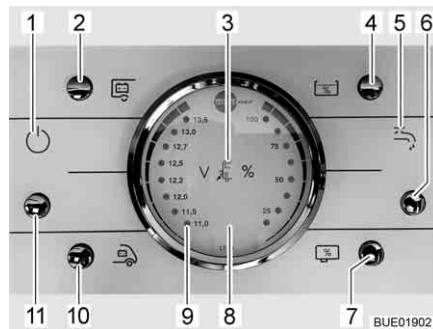

Fig. 167 Panel LT 96
The button (Fig. 167,11) switches the panel and the 12 V power supply to the living area on and off.
Switching on: ■ Press the button (Fig. 167,11): The 12 V living area power supply is switched on. The indicator lamp (Fig. 167,1) lights up.
Switching off: ■ Press the button (Fig. 167,11): The 12 V living area power supply is switched off. The indicator lamp (Fig. 167,1) goes out.
With the V/tank gauge (Fig. 167,8), note the left scale. The gauge automatically lights up as soon as a button is pressed.
- Press the button (Fig. 167,10): The battery voltage of the starter battery is displayed.
- Press the button (Fig. 167,2): The battery voltage of the living area battery is displayed.
The V/tank gauge is for the indication of the quantity of water or waste water. With the V/tank gauge (Fig. 167,8), note the right scale. The gauge automatically lights up as soon as a button is pressed.
- Press the button (Fig. 167,4): The volume of water is displayed.
- Press the button (Fig. 167,7): The volume of waste water is displayed.
- Press the button (Fig. 167,6): The water supply is ON. The water pump indicator lamp (Fig. 167,5) lights up.
- Press the button (Fig. 167,6): The water supply is OFF. The water pump indicator lamp (Fig. 167,5) goes out.
The red "ALARM" warning light (Fig. 167,9) flashes as soon as the voltage of the living area battery falls below 11 V (measured under operation) and there is a risk of a total discharge.
The 12 V indicator lamp (Fig. 167,1) lights up when the 12 V main button (Fig. 167,11) is switched on.
The 230 V indicator lamp (Fig. 167,3) illuminates whenever line voltage is available at the transformer/rectifier input.